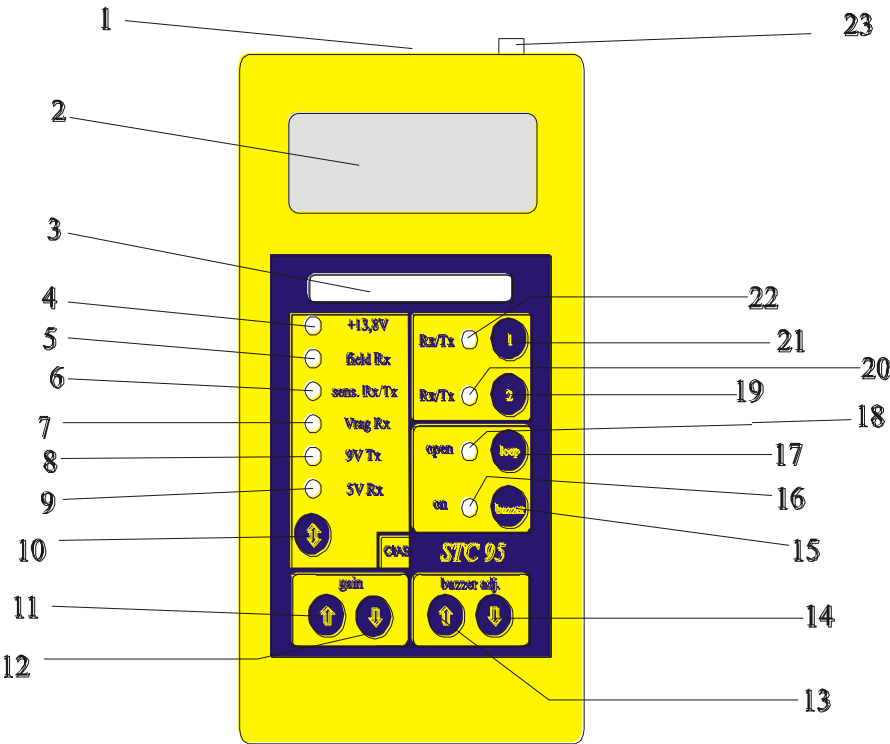

Figure 10
For the Microwave Barrier Adjustment and Testing, CIAS gives the availability of a dedicated instrument, with the intention to facilitate installation operation and operator activity support. The following figure 10 shows the CIAS STC 95 instrument with function explanations.
- l) Press key **“↑” (10)** till led **“V Rag Rx” (7)** is on. Check that a voltage value within $2,5 \div 6,5 \text{ V} \pm$ is read on the display. This AGC voltage value is directly proportional to the distance between the transmitting and receiving heads.
- m) Press key **“↑” (10)** till the Sensitivity Measurement led **“sens Rx / Tx” (6)** is on. Operate on the **SEN** trimmer present in module RX (fig. 10) till a value within $0,3 \text{ and } 9 \text{ V} \pm 5 \%$ is read on the display. Note that the value of $0,3 \text{ V} \pm$ corresponds to the maximum sensitivity, and that value $9 \text{ V} \pm$ corresponds to the minimum sensitivity. The alarm crossing tests usually are performed with a walking person (standing) moving at a speed of 0.5 m/s . **We suggest to start this tests with the sensitivity adjusted at 50 % (trimmer position) and the integration adjusted at 40 % (trimmer position).** The final sensitivity adjustment must be related to the specific site requirements.